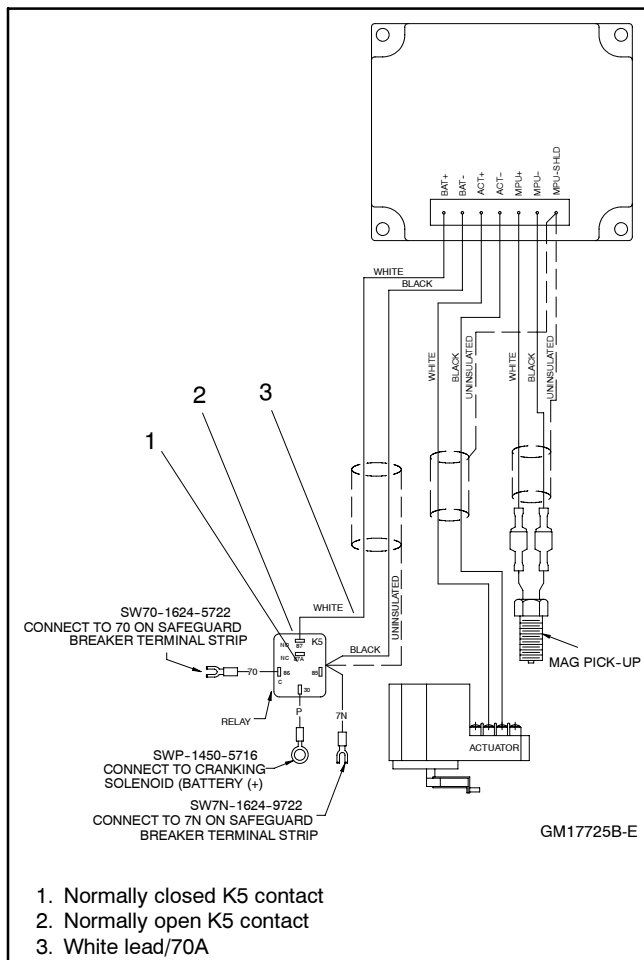

Figure 8-15 Energizing the Governor Controller (non-load share model shown)
- g. Energize the governor controller by moving the white lead/70A from the normally open K5 contact to the normally closed K5 contact. See Figure 8-15. Connecting to the normally closed contact will energize the governor controller without starting/running the generator set.
- b. Move the white lead/70A from the normally closed K5 contact back to the normally open K5 contact. See Figure 8-15.